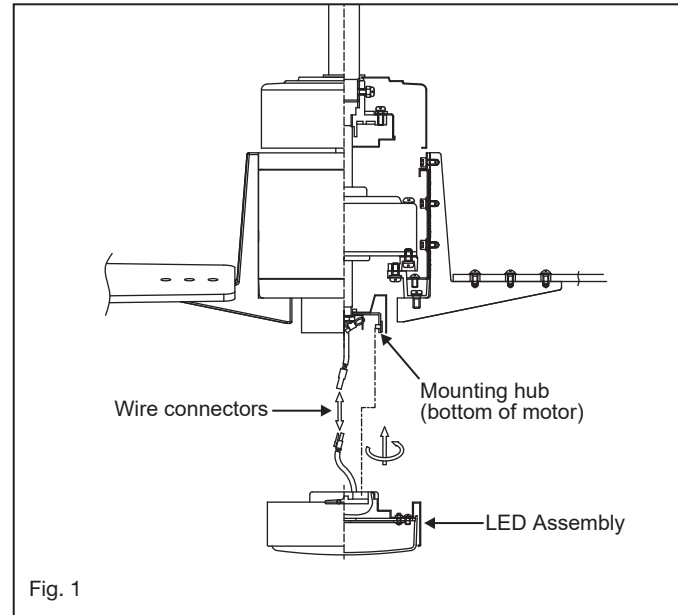

Fig. 1
- 1 While holding the LED assembly under your fan, make the polarizeplug connections: (Fig. 1)
- 2 Position the notches on the outside edge of the LED assembly so they match the tabs on the inner of the rim on the mounting hub. Carefully lift the LED assembly inside the mounting hub and secure it to the fan by turning the LED assembly clockwise until snug. (Fig. 1)
- 1 Select a desired location. Use the wall plate to mark the location of the mounting holes. Plastic wall anchors or mounting screws are needed for this application. (Fig. 1)